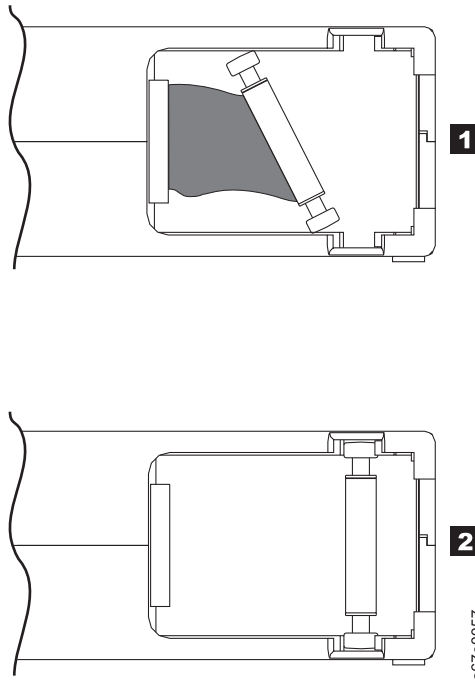

Figure 18. Leader pin in the incorrect and correct positions. The cartridge door is open and the leader pin is visible inside the cartridge.
- Check that the leader pin is properly seated (see **2** in Figure 18 on page 55).
- Do not drop the cartridge. If the cartridge drops, slide the cartridge door back and ensure that the leader pin is properly seated in the pin-retaining spring clips. See **2** in Figure 18 on page 55. If the leader pin becomes dislodged, go to “Repositioning or reattaching a leader pin” on page 54.
Improper placement of leader pin. See Figure 18 on page 55.
A leader pin that is improperly seated inside a cartridge interferes with the operation of the drive. Figure 18 on page 55 shows a leader pin in the incorrect **1** and correct **2** positions.